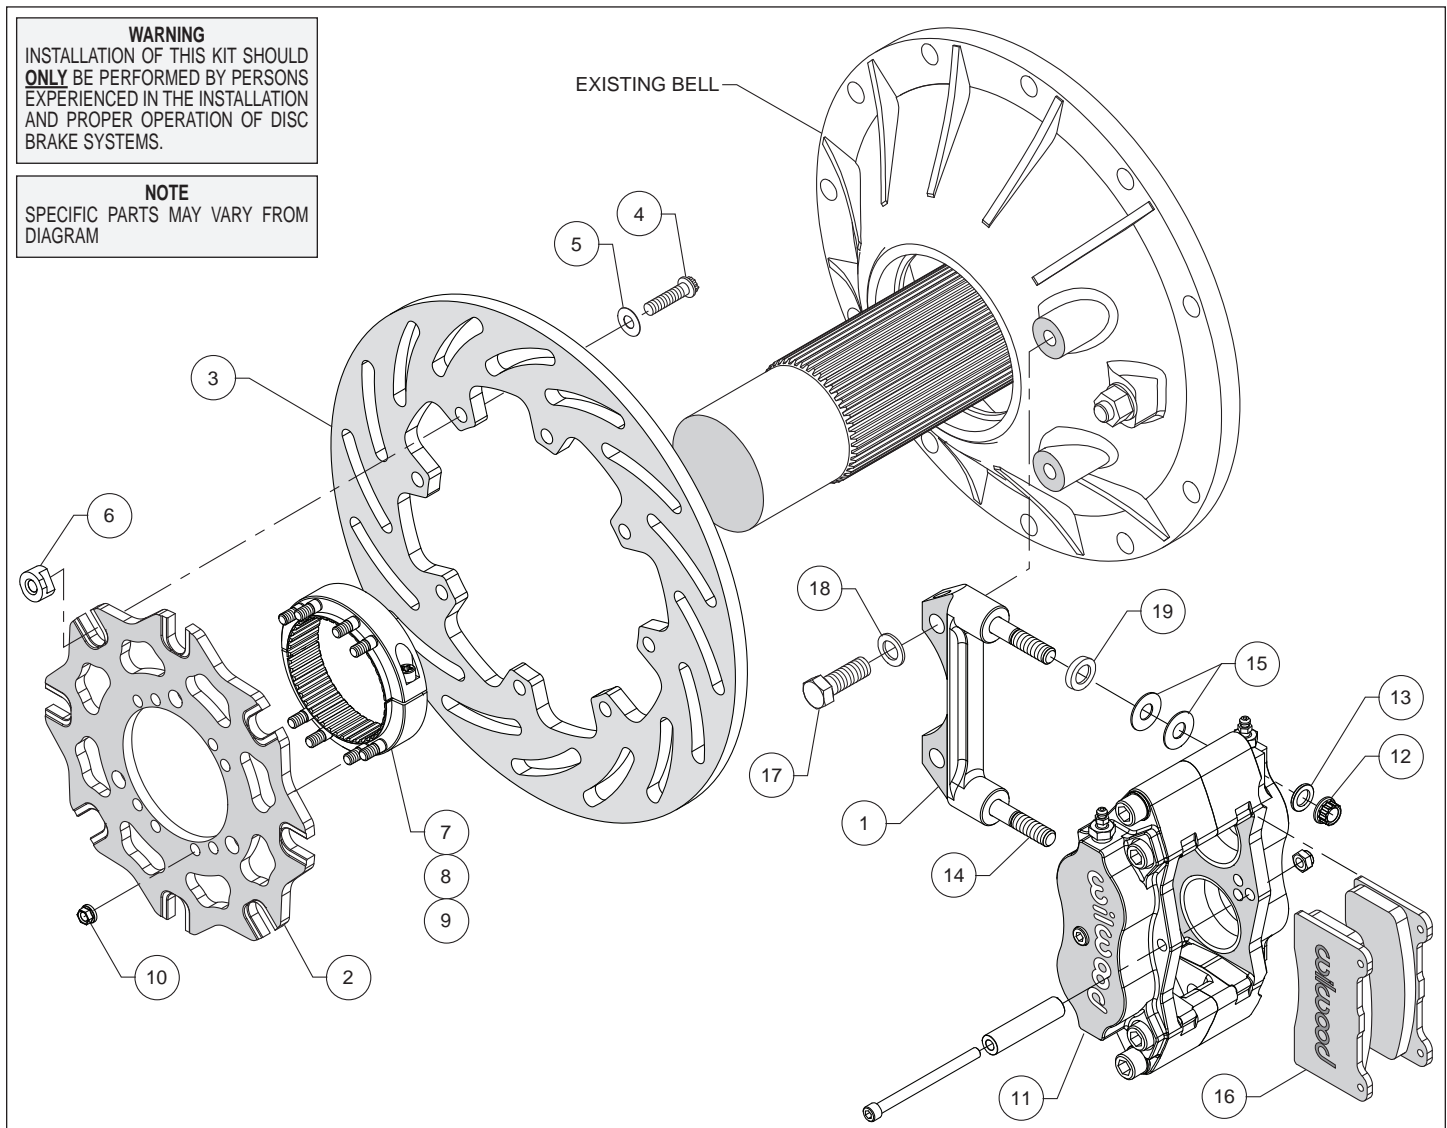

Figure 1. Typical Installation Configuration
Assembly Instructions (numbers in parenthesis refer to the parts list, and Figure 1 on the preceding pages): **CAUTION:** All mounting bolts must fully engage threaded holes.
- Orient the caliper mount bracket (1) as shown in Figure 1 and install using bolts (17) and washers (18). Temporarily tighten the mounting bolts. **NOTE:** The bracket must fit squarely against the mount bosses on the bell. Inspect for interference from casting irregularities, machining ridges, burrs, etc. Remove the bracket mounting bolts one at a time, apply red *Loctite*[®] 271 to the threads, and torque to 60 ft-lb.
- Orient the rotor adapter (2) and the rotor (3), as shown in Figure 1, and attach using bolts (4), washers (5) and t-nuts (6), Figure 1. Apply red *Loctite*[®] 271 to the bolt threads before installing. Finger tighten. After all t-nuts have been installed, torque bolts in an alternating sequence to 220 **in-lbs**. Please refer to Wilwood's data sheet DS-669 (available at www.wilwood.com/Pdf/DataSheets/ds669.pdf) for complete t-nut bolt kit installation instructions. **NOTE:** Rotor adapter may be fix mounted to rotor (instead of floating mount) using customer supplied hardware.
- Orient the axle clamp assembly (7, 8 and 9, pre-assembled) as shown in Figure 1 and install onto the rotor adapter (2) using nuts (10). Tighten nuts part way while still allowing clamp-to-adapter movement. The nuts will be torqued later, after aligning the rotor. **NOTE:** *The axle clamp should be positioned inside of the rotor as shown, not offset, or outside of the rotor adapter.*
- Lubricate the caliper mounting studs (14) with lightweight oil. Initially place two .035" thick shims (15) and one spacer (19) on each stud as shown in Figure 1. Mount the caliper (11) onto the bracket (1) using lock nuts (12) and washers (13), Figure 1. Temporarily tighten the lock nuts and view the rotor through the top opening of the caliper. The rotor should be centered in the caliper. If not, slide the rotor/adapter assembly on the axle until the rotor is centered in the caliper. Tighten the clamp bolts (9) first, locking the clamp to the axle. Torque nuts (10) to 140 **in-lbs**.
- Remove the caliper center bridge pad retainer bolt, nut, and tube from the caliper. Insert the brake pads (16) into the caliper, with the friction material facing the rotor. Check that the top of the brake pad is flush with the outside diameter of the rotor. If not, adjust by adding or subtracting shims (15) between the caliper and the bracket. After the caliper pad height is set, torque the caliper lock nuts (12) to 30 ft-lb. Secure the brake pads in place with the center bridge pad retainer tube, bolt, and locknut. The locknut should be snug without play in the bolt or tube. Be cautious not to over tighten.